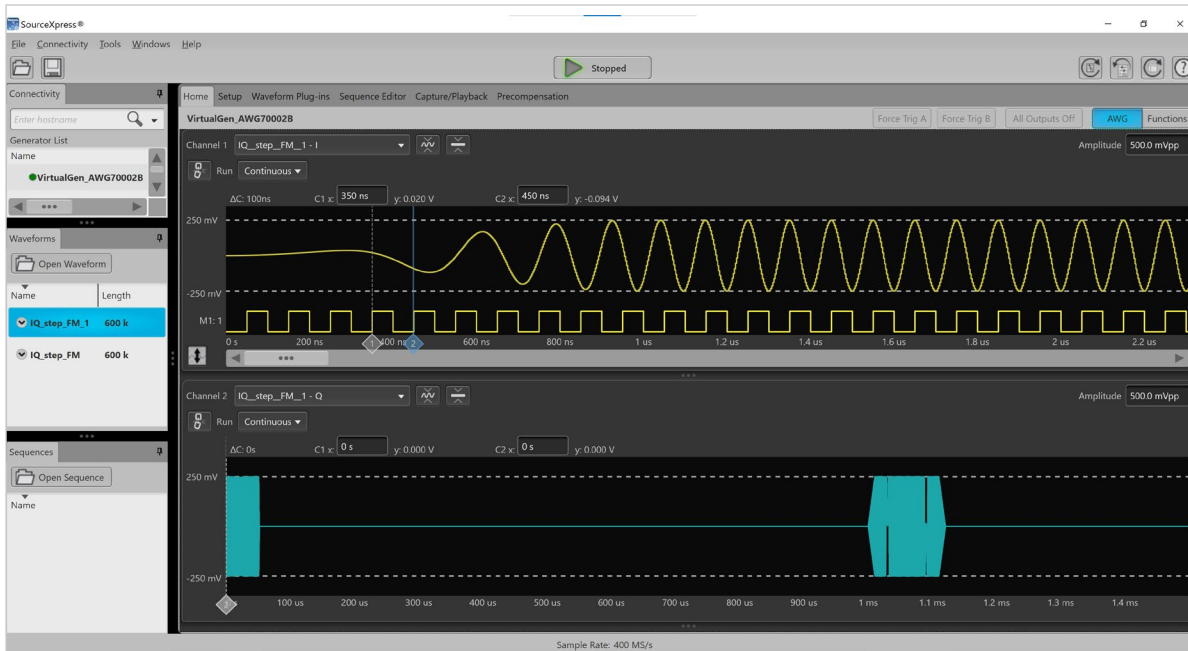

Figure 16: Baseband IQ example flat single waveform with zoom showing Marker 1 (10 MHz clock output).
15. See the result in Figure 16. Save this example as “Example 3 flat.awgx”, since it is a “flat” single non-sequenced waveform file.